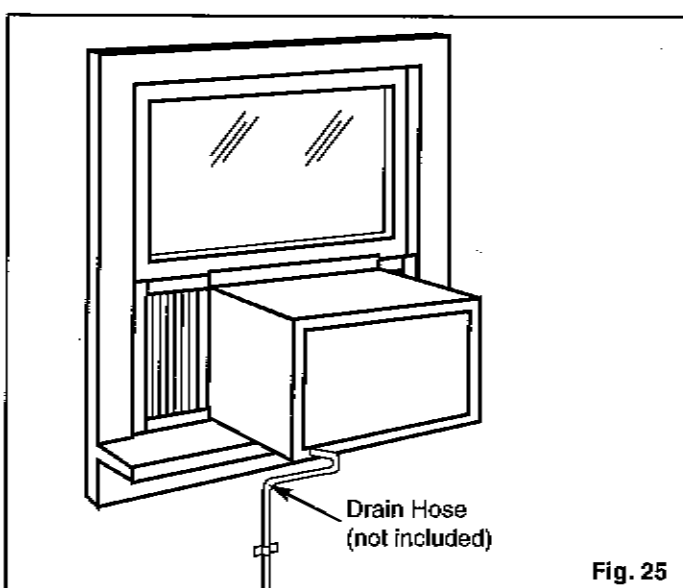

Fig. 25
- Under very humid conditions, water removal may be excessive enough to overflow from the rear of the unit or increase noise levels of the air conditioner. If this occurs, consider attaching a standard **drain (garden) hose (not included)** to the drain plug at the rear of the unit, allowing condensation to run off conveniently. (Fig. 25.)
Une connexion de tuyau de drainage (à l'exclusion du tuyau) est fournie pour réacheminer le débordement de la condensation. Voir fig. 25.